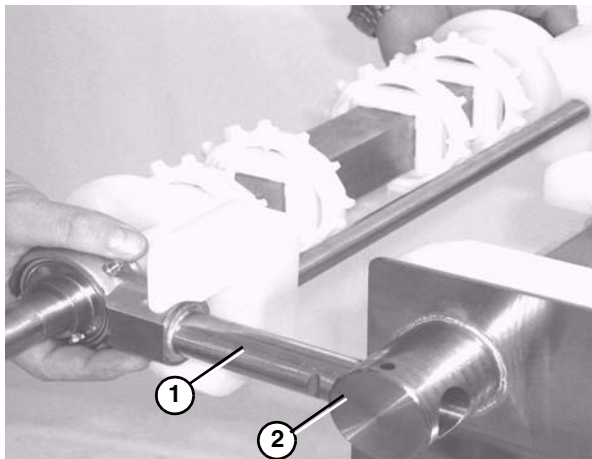

Figure 15
1. Slide the bearing shafts (Figure 15, item 1) into the take up blocks (Figure 15, item 2).